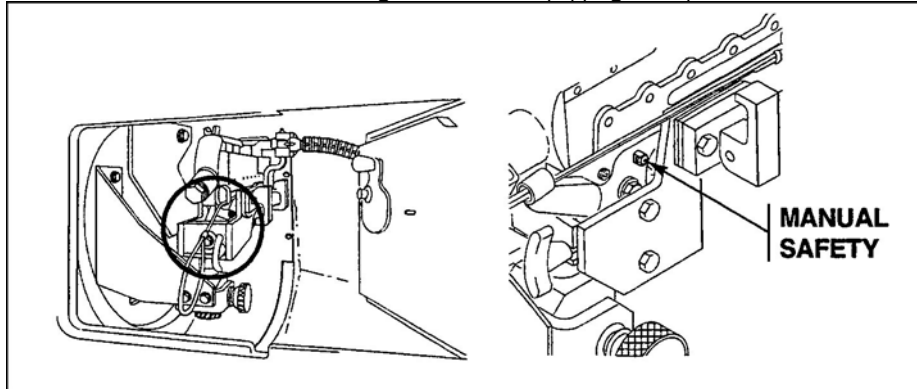
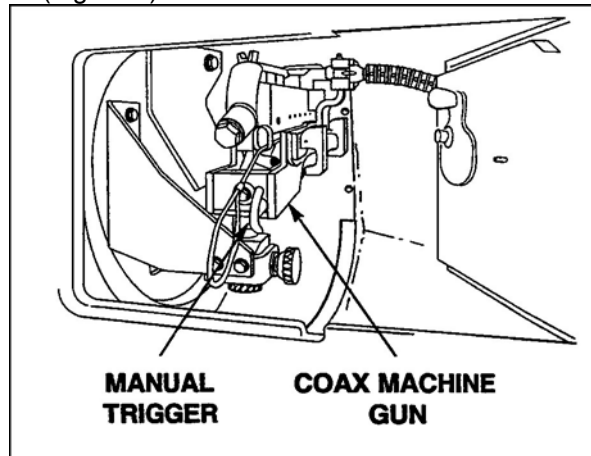

Figure 5. Manual safety.
Figure 8. Manual trigger.
- (1) Pull the charging cable on the right side of the M240C coaxial machine gun firmly to the rear.
- (2) Release the charging cable to ensure the bolt is locked into the rear position.
- e. Place the M240C coaxial machine gun on SAFE (S)(Figure 5).
- (1) Lift up the feed tray.
- (2) Observe the chamber for any ammunition.
- i. Place the M240C coaxial machine gun on fire (F)(Figure 5).
- (1) Press the manual safety lever to the left.
- (2) Ensure the F is visible on the left side of the lever.
- j. Dry fire the weapon (Figure 8).